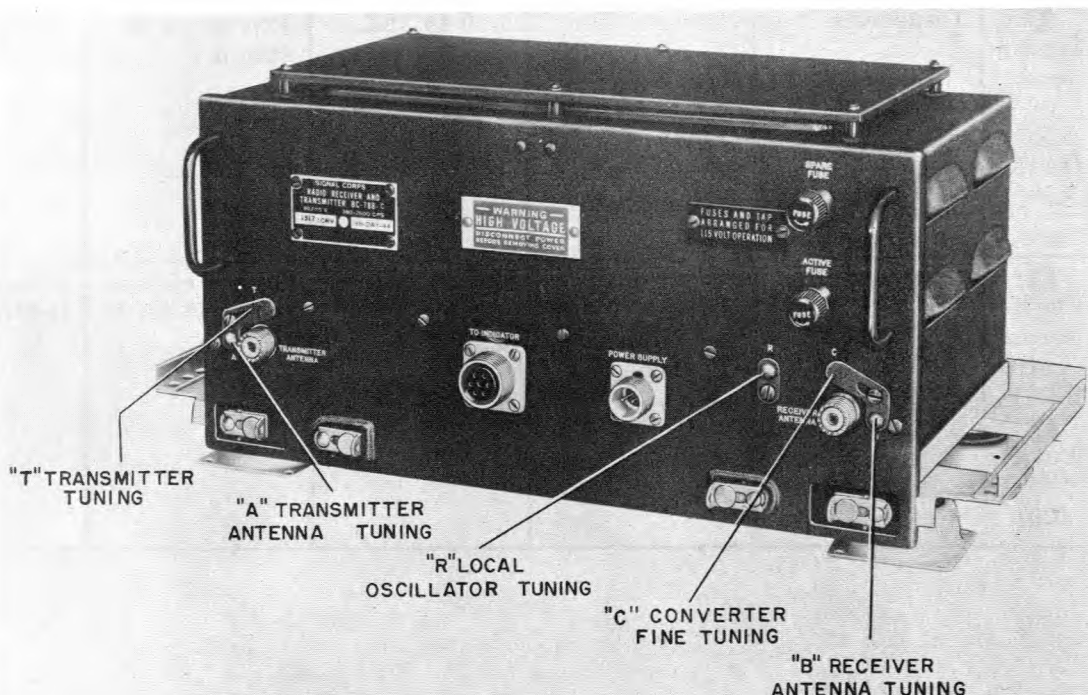

Figure 5-6. Location of Receiver-Transmitter Adjustments
- d. Move adjustment cover to the side, and adjust control T (figure 5-6) on receiver-trans-